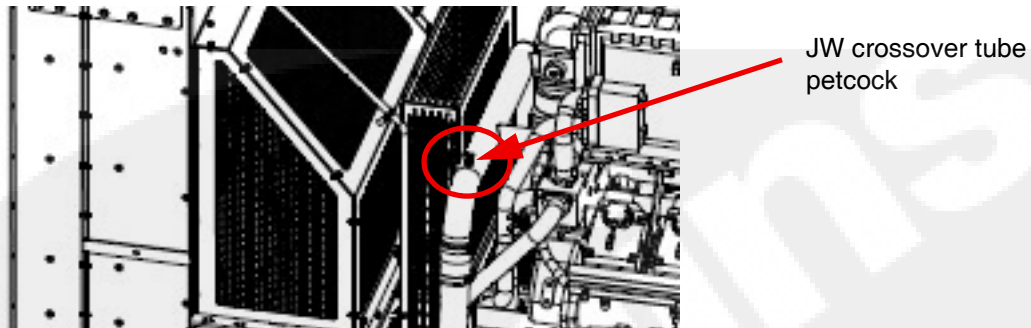

Figure 7-22 JW crossover tube petcock (GenSet left side)
4. Check that the JW petcock (on top of the JW crossover tube shown in Figure 7-22) is closed.